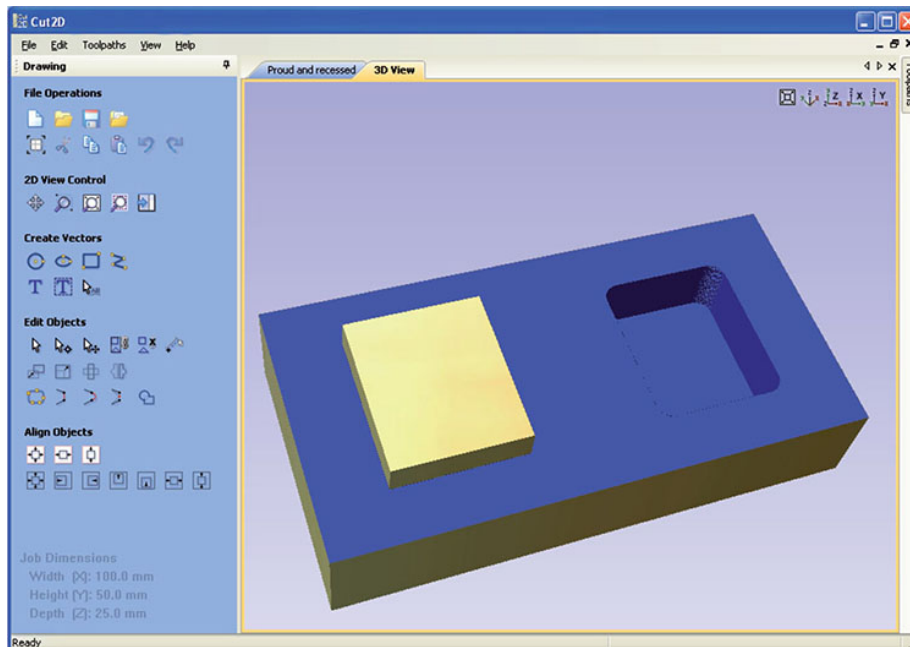

Fig. 5-17 Preview of the toolpath for a workpiece with a protruding profile and a recessed pocket.
- Preview all the toolpaths. The result should be as shown in Fig. 5-17.